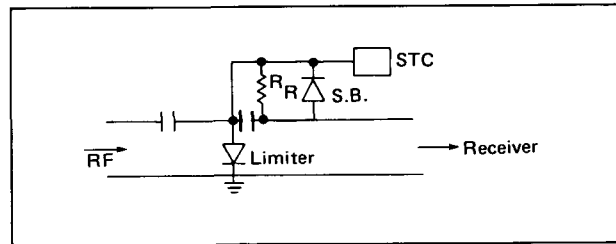

Figure 22. Passive Limiter-Dual STC Function
For various applications a limiter diode can be used to provide passive receiver protection and STC attenuator function simultaneously, as indicated in Figure 22. The Schottky diode provides a low impedance return, and the shunt resistor R_R minimizes recovery time, as will be explained in the following section.
If the limiter circuit employs a Schottky, either as a “limiter” or as a “ground return,” the Schottky recovers almost instantly, and the PIN limiter does not have a ground return — recovery time will be long. A resistor in shunt with the Schottky (Figure 22) solves this problem at the expense of either Schottky current or bias current. Design compromise may be necessary in establishing the value of this resistor. The inductance of the ground return, as mentioned earlier, influences both spike leakage and recovery time. For minimum spike the time constant (RL) of the ground return-limiter circuit must be less than the pulse rise time.
If the application involves fixed pulse lengths, the circuit of Figure 22 can be modified by replacing R_R with a large inductance, with RL (Schottky R) roughly equal to the pulse length. Initially, all Schottky current flows to the limiter and the spike is minimized; during the pulse some Schottky current flows through the choke, raising leakage power only marginally; at the end of the pulse the Schottky ceases to supply current, and the choke develops a negative $L \frac{\Delta i}{\Delta t}$